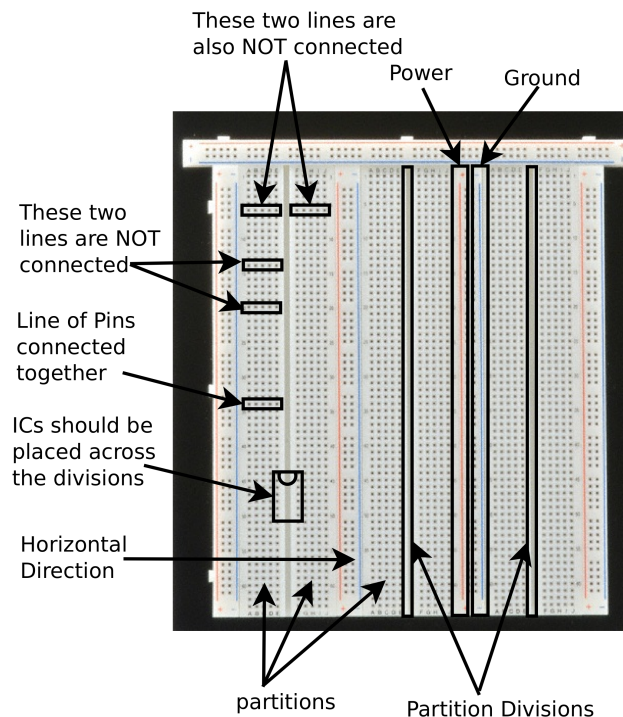

Figure 4: Twin Industries TW-E41-1060 Bread-Board
The first four labs require extensive bread-boarding of digital circuits. The bread-board used in ECEN248 is depicted in Figure 4. Take a moment to examine it. Here are a few techniques which will help you wire up your circuits:
2. Vertical line are **NOT** electrically connected, except in the case of a power or ground line (see Figure 4).
3. Power and Ground lines shown vertically in Figure 4 are electrically connected. In lab, you will connect the 5V supply to one of the pins in the Power line. This will connect the entire column to the 5V supply. Similarly, the Ground signal needs to be connected to one pin in the Ground line.
4. All the Integrated Circuits (ICs) in the design should be placed across one of the partition divisions as shown in Figure 4. Do not place an IC in only one partition because this will short pins together causing the IC to burn up.
7. You may decide to always place the IC in such a way that the notch is located on the top (or bottom) as shown in Figure 4. This may help you identify pin numbers. Similarly, it might be a good idea to use color codes while wiring up your design. For example, you could assign black wires to the least significant bit, white wires to the next significant bit, green wires to the next, and red wires for the most significant bit. The color code and order of assignment is entirely your choice and for your convenience in identifying wire connections while debugging.